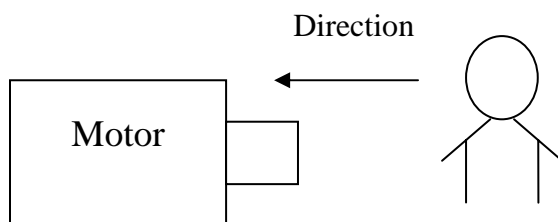

Fig 5.2.6(23) the concept of axis direction
(4) Set the direction of motor rotation.
Press the button 'inject' and 'suck back' on the keyboard. Observe the motor's rotation from the axis direction. Fig 5.2.6(23) gives the concept of axis